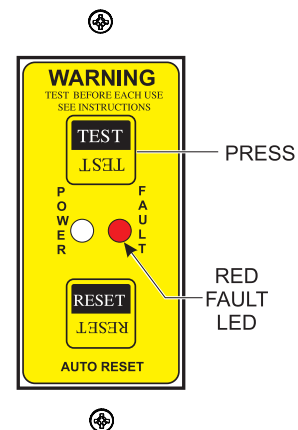

Figure 52. GFCI Module (Red/Fault LED ON)
5. Next, press the **TEST** button on the GFCI sensing module (Figure 52) and verify that the *green* POWER LED turns **OFF** and the *red* FAULT LED turns **ON**.